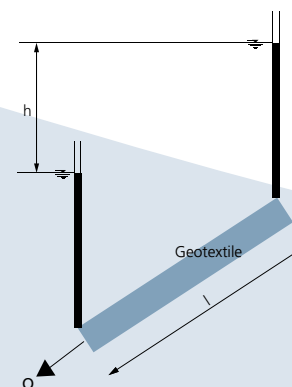

Fig. 9. Calculation of the hydraulic gradient for inclined drains.
- i: hydraulic gradient (Δh/Δl) see fig. 9. [-] (i=1 for vertical drains)